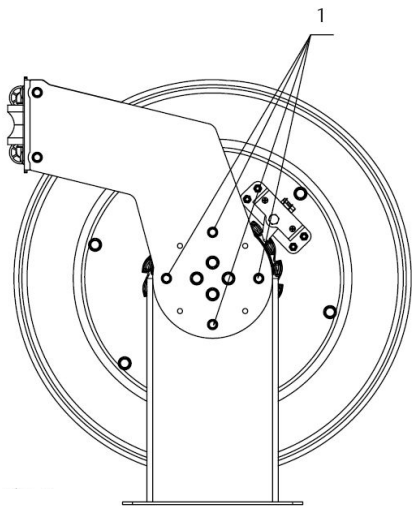
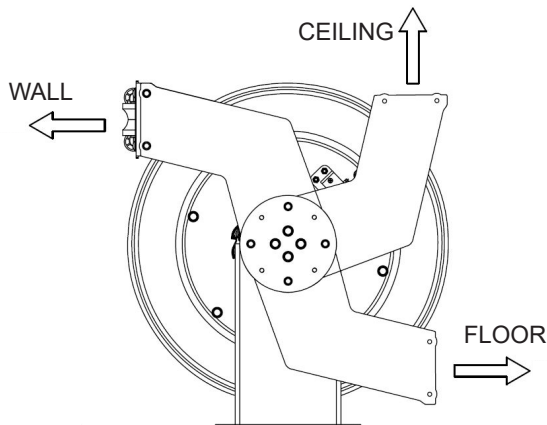

Figure 2
Figure 3
3. To move the hose guide arm and the hose outlet mouth, remove screws (1) (figure 2), place arm and outlet in correct position (figure 3) and replace screws.